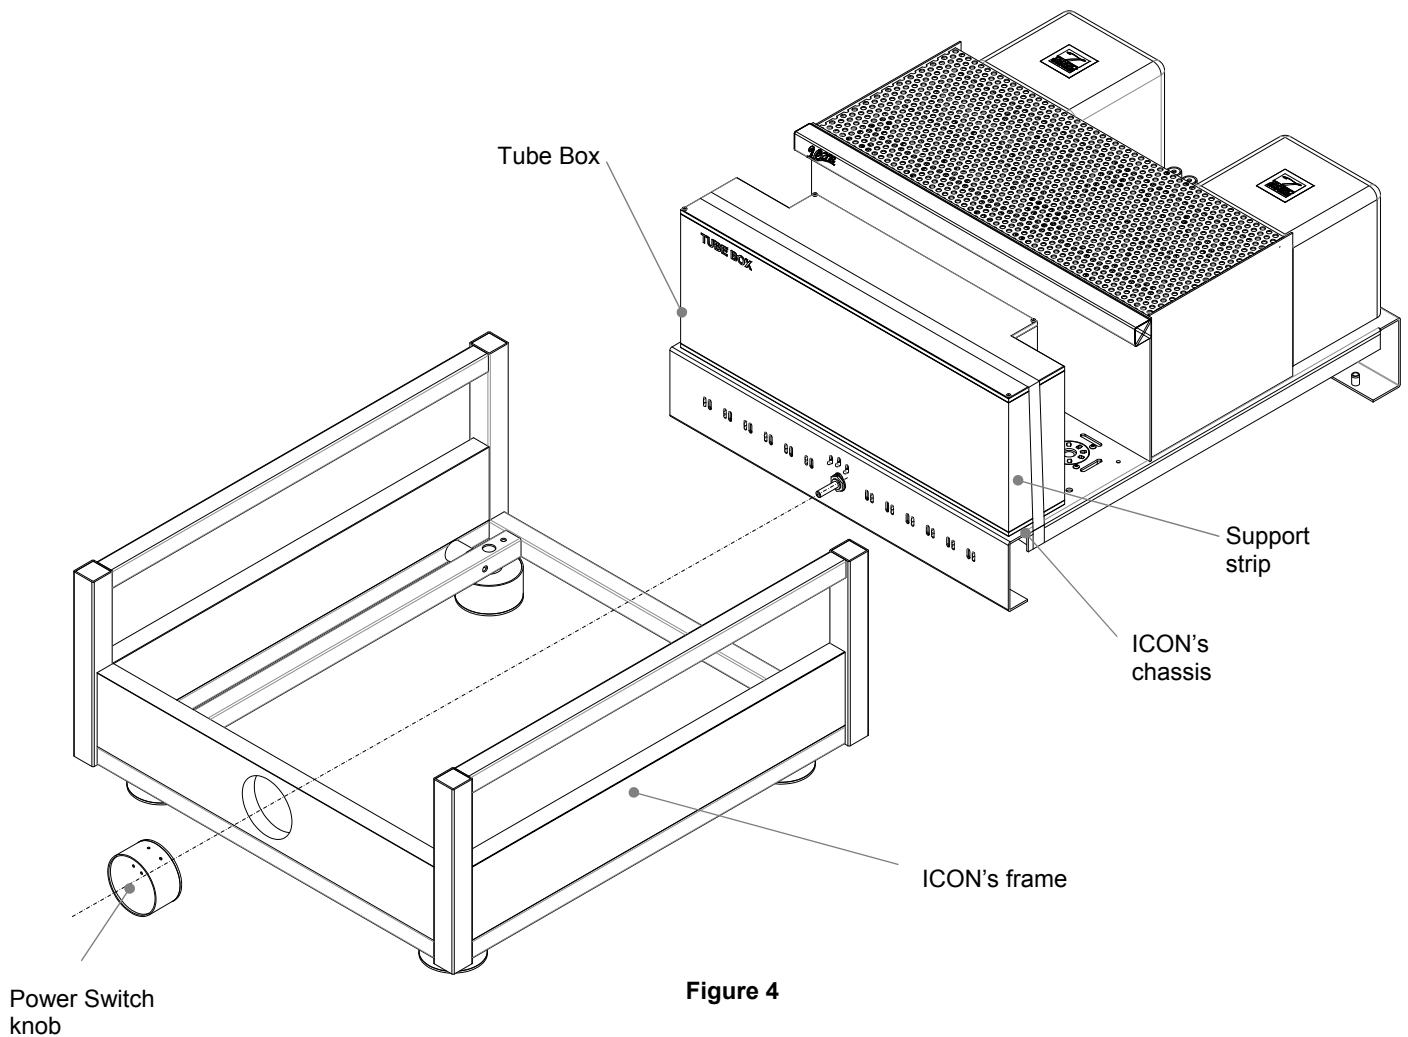

Figure 4
1. Using an appropriate screwdriver, remove screw from the bottom of Power Switch Knob and pull it from the Front Panel. Refer to figure 4.